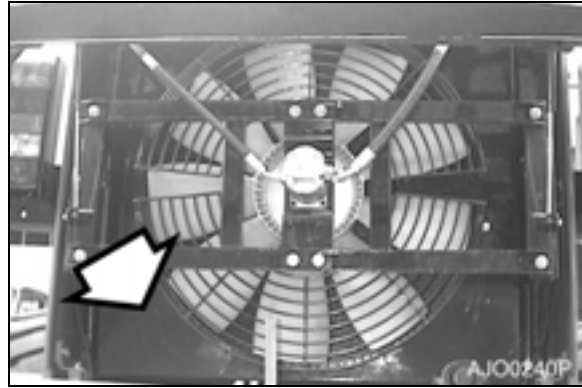
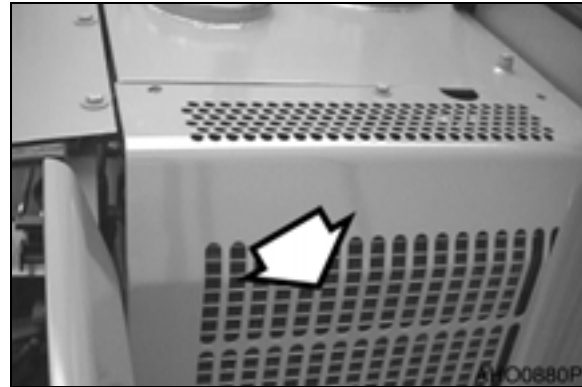

Figure 64 (S/N 1001 thru 2000 EUROPE LOW NOISE KIT) and (S/N 2001 and Up)
Figure 65 AIR CONDITIONER CONDENSER
1. Dust and dirt accumulation on fins of radiator and oil cooler (Figure 64), and air conditioner condenser (Figure 65) greatly reduce their cooling efficiency. Use compressed air, water and steam to clean fins on radiator, oil cooler, and transmission cooler.